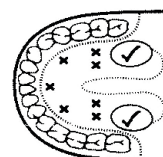

Figure 2
- Oral Use:** Place thermometer under tongue as indicated by “V” position shown in Figure 2. Close your mouth and breathe evenly through the nose to prevent the measurement from being influenced by inhaled/exhaled air. Normal temperature between 35.7°C and 37.3°C (96.3°F and 99.1°F).